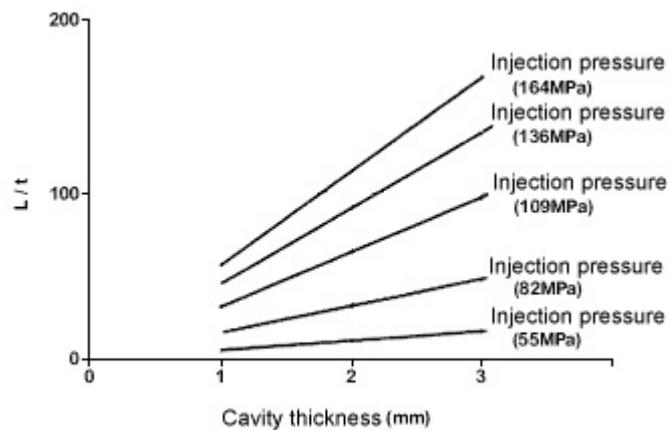

Figure 14. Cavity thickness and L/t of Reny1022 (gate diameter 1mmÖ, resin temperature 273°C, mold temperature 130°C)
Ratio (L/t) of flow length (L) and cavity thickness (t) is often used to express the flow property of the material. Figure 14 and 15 indicate relation of cavity thickness and L/t . From the result of Figure 14, L/t will change its value from 10 to 170, by the effect of cavity thickness increase or injection pressure. More specifically, L/t is a value that changes depending on the cavity thickness, injection pressure, and resin temperature, so cannot say that there is a universality as a value that expresses material flow property. However, this value is effective when evaluating flow property of particular material in an appropriate condition.